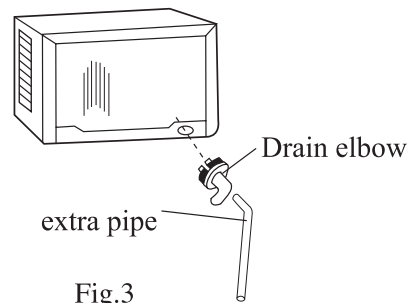

Fig.3
5. Plug the drain elbow of the enclosed accessories (with seal ring) into the drain hole on the vertical wall at the back of the bottom plate (see Fig. 3)